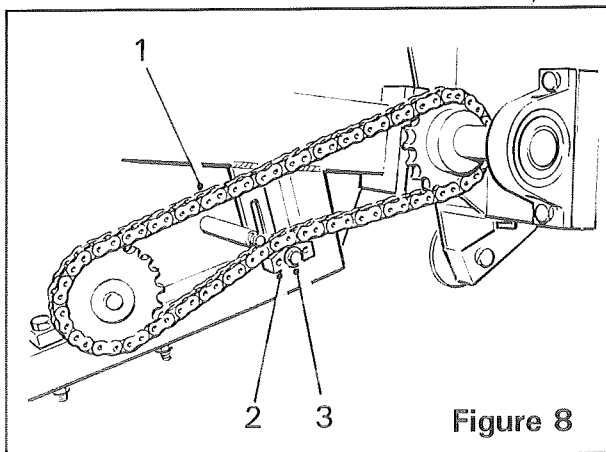

Figure 8
The agitator drive chain (item 1, figure 8) is tensioned by a tension block (item 2, figure 8). To adjust the tension of the drive chain, loosen the securing bolt (item 3, figure 8) and slide the tension block to increase/decrease the chain tension. Once the correct tension is achieved, retighten the securing bolt.